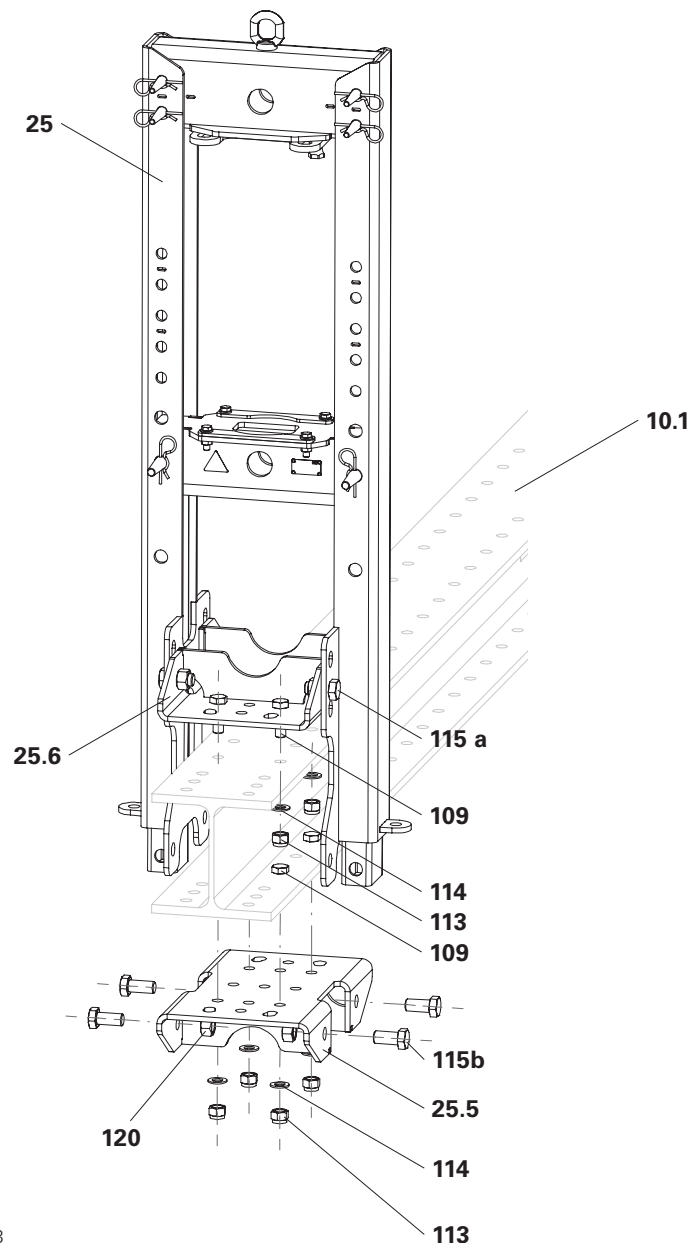

Fig. B2.03
3. Attach the liftframe (25) to the crane lifting gear and fly in.
5. Fix the bottom girder connection (25.5) in its original position with bolts M24x50 (115b) and nuts M24 (120).
7. Fix the liftframe (25) to the base beam with bolts M20x60 (109), washers M20 (114) and self-locking nuts M20 (113).
9. Remove the crane lifting gear. (Fig. B2.03)